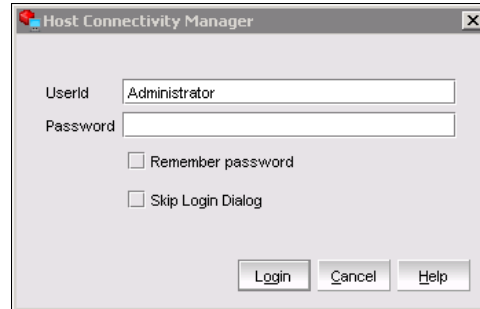

Figure 10-2 Change HCM Password dialog box
1. From the Host Connectivity Manager, select **Configure** → **Change Password** → **Change Password for HCM User**; the Change HCM Password dialog box displays (Figure 10-2).